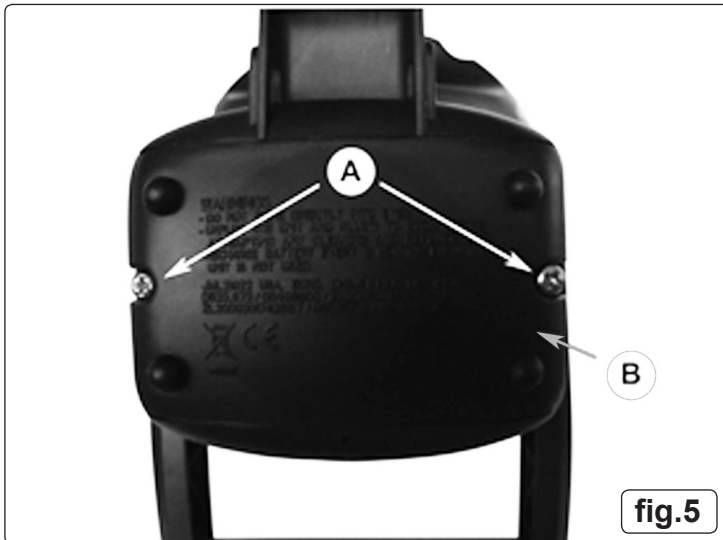

fig.5
2. Undo the 2 battery cover retaining screws (fig.5.A) at the rear of the spotlight.
3. Remove the battery cover (fig.5.B).